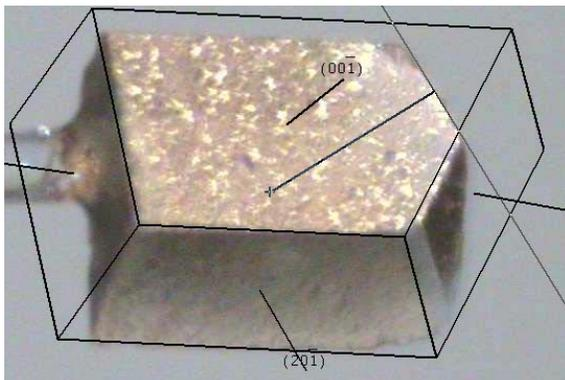

Figure B.9 – Some, but not all, faces defined
- As you define more faces, APEX2 will begin to display its geometric model of the crystal, superimposed over the video images (Figure B.9). Continue until all faces are defined.